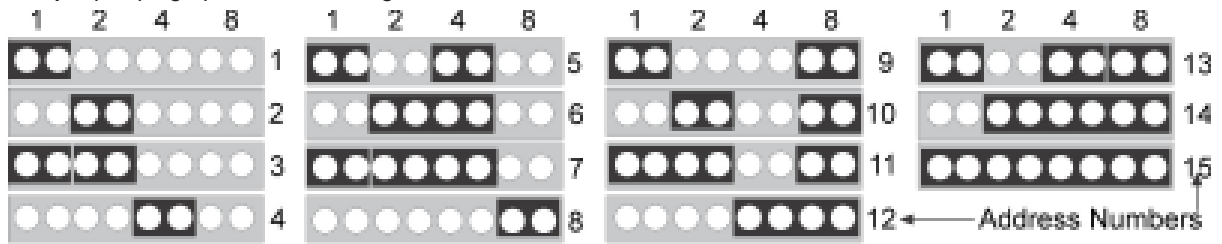

Figure 7: D7048(B) Option Bus Addresses
The D7048(B) must be selected as an option address 1-15. Use the Option Address Pins to select an option address with the jumper plugs provided. See Figure 7.